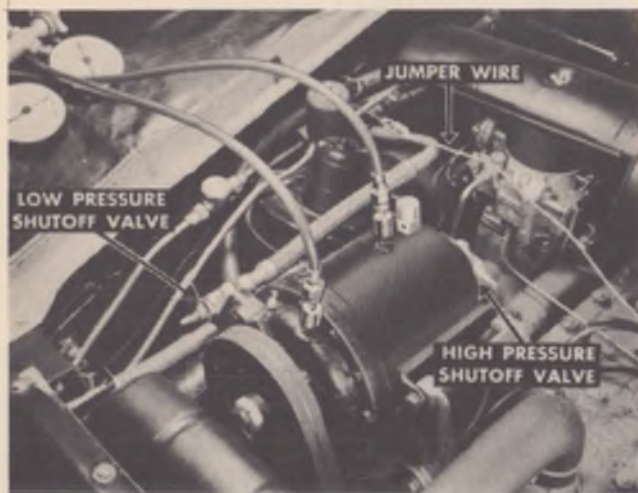

Fig. 3
6. Energize the solenoid by connecting a wire from the hot (negative) side of the battery to the solenoid. See Figure 3.